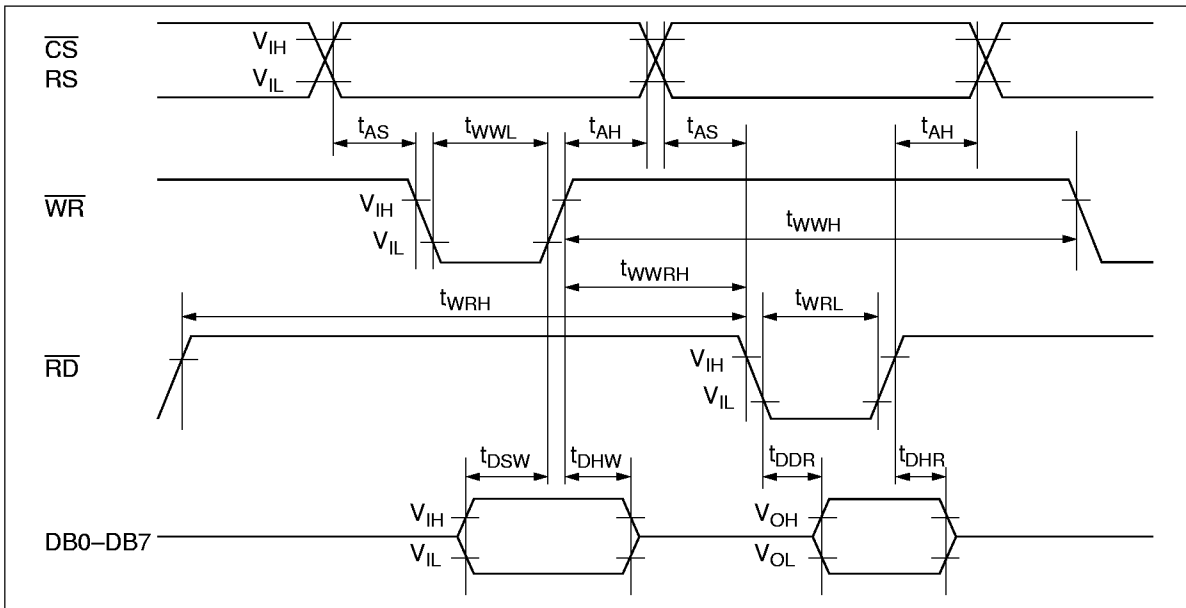

Figure 37 CPU Bus Timing
1. CPU Bus Timing (Figure 37)
## 1. CPU Bus Timing (Figure 37)